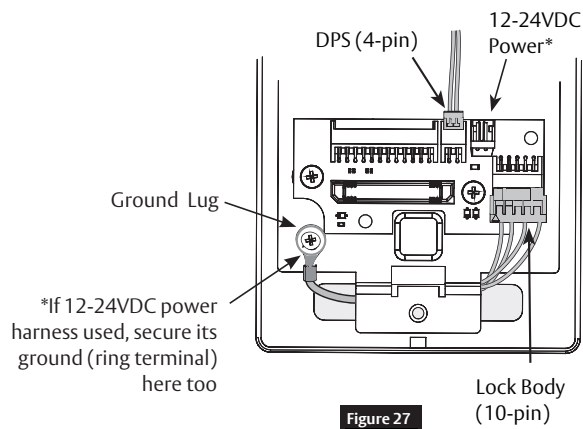

Figure 27
1. Secure the following connectors to their respective terminals. (Figure 27)